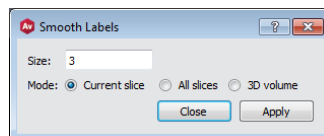

Figure 5.9: Smooth labels dialog
- In the *Segmentation* menu, select *Smooth labels...* (see Figure 5.9).